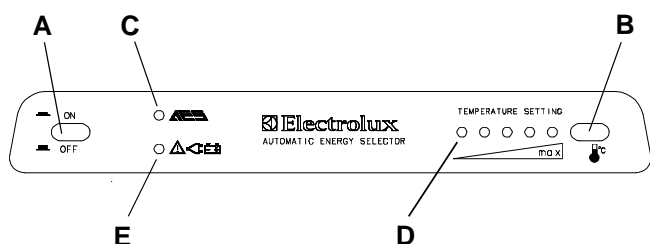

FIG. 1
The control panel is shown in fig.1.
All references are to fig. 1.
WARNING: It is not allowed to have a naked flame at a gas filling station. If you are not sure, that your stop is shorter than 15 min., you are advised to switch off the main switch (A), fig. 1, when stopping at a filling station.
The AES system is designed to guarantee the maximum cooling efficiency under any circumstances. Therefore, the system monitors continuously the voltage level while being in either 12 V DC or 230-240 V AC mode. If the voltage is too low, the system switches to Gas mode shown by the yellow LED (E in fig. 1.). The system stays in Gas mode, until the electrical supply voltage has recovered to normal level.
The position number refers to fig.1.
1. Set the switch (A), fig. 1, to "OFF".